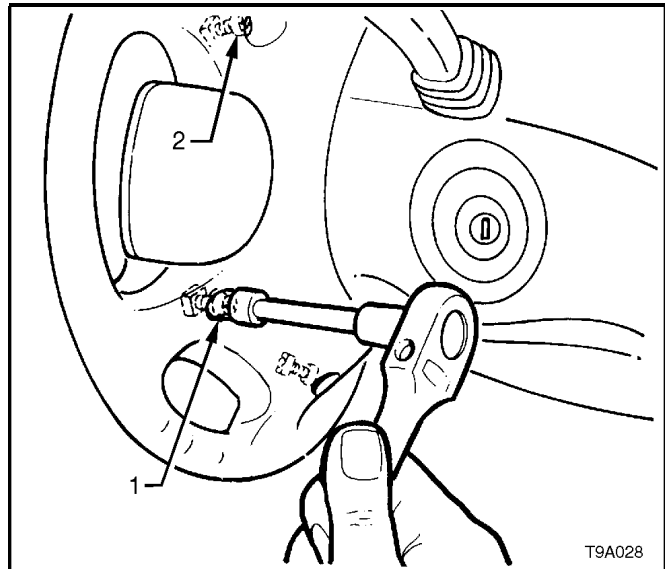

Figure 12M-20
3. Lift up horn bar and air bag inflator module assembly (1) from the steering wheel, remove the yellow clock spring to inflator assembly connection (2) and disconnect wiring harness connectors (3 and 4) from rear of assembly, refer to Fig 12M-21.